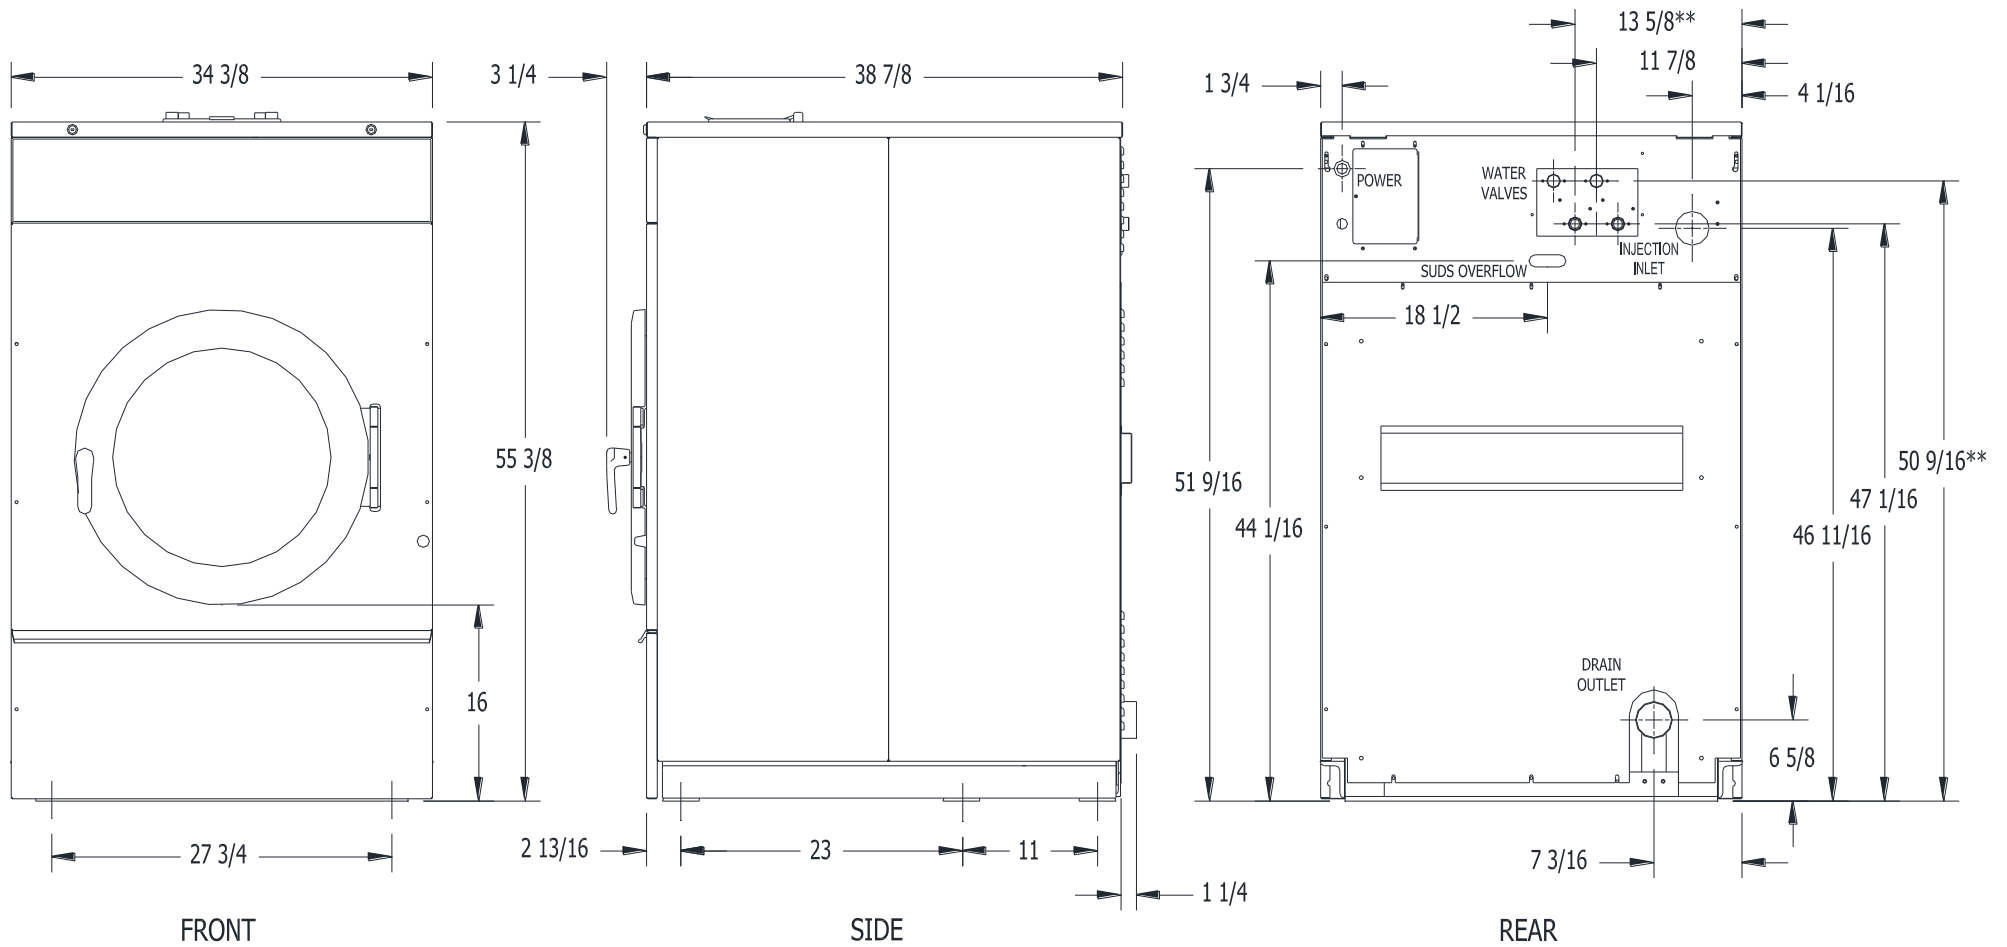

Figure 1-4: T-900/950 Industrial Washer Mounting Diagram
**NOTE: Top water valves shown in Figure 1-4 are only on T-950 model.